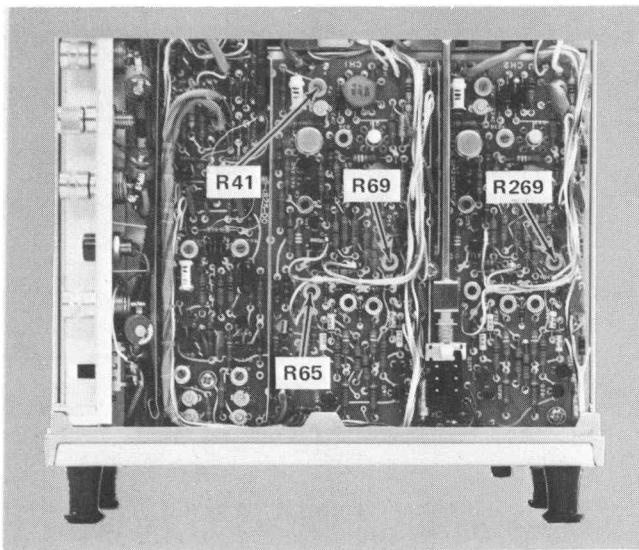

Fig. 5-13. Location of Limit Centering and Vertical Gain controls.
e. ADJUST—R69, Limit Centering control, for least compression. Compression should not exceed 0.1 division. See Fig. 5-13 for location of R69 and R269.
d. ADJUST—R65, X1 Vertical Gain adjustment, for 5.00 divisions of display. See Fig. 5-13 for location of Gain controls.